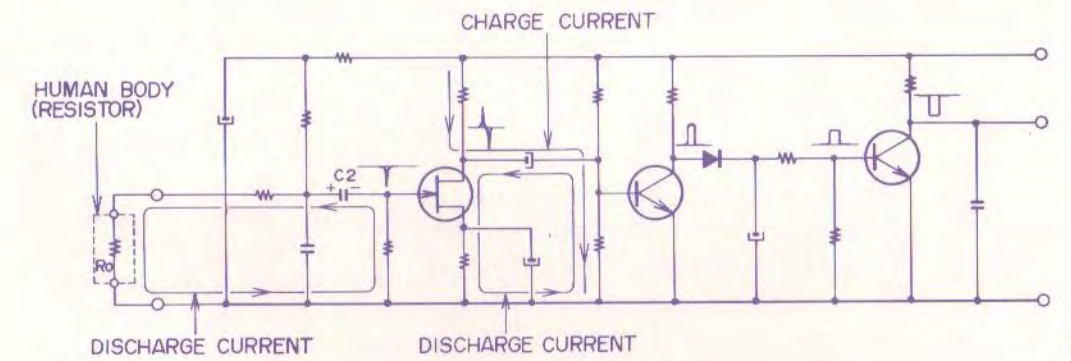

Fig. 15
3. WHEN A BUTTON IS TOUCHED WITH A FINGER AND AT THE SAME TIME THE DECK CHASSIS IS TOUCHED WITH ANOTHER FINGER OR A HAND (See Fig. 15)
As shown in Fig. 15, when a button is touched with a finger and the chassis is touched simultaneously, by means of the resistors shown in the circuit diagram, C2 electric charge passes R1→R0→R4 and is discharged. From looking at the circuit, it can be understood that discharge is completed in an extremely short time. In this very short discharge time period, FET is cut, the drain voltage increases, and condenser C3 is charged. When C2 discharge is complete and the voltage of both terminals becomes equal, FET drain current flows and the electric charge charged at C3 is discharged.